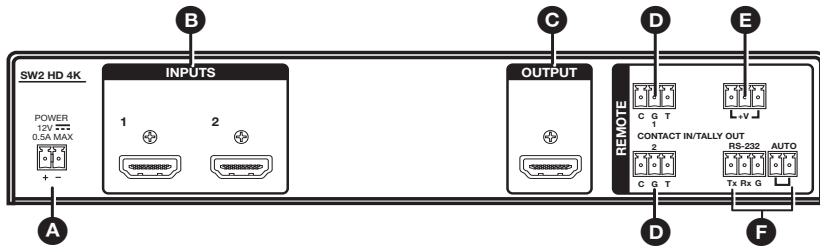

Figure 1. SW2 HD 4K Rear Panel
3. **Connect HDMI input sources** to one or more of the SW HD 4K input connectors (see figures 1 and 2, **B**).
- **RS-232 port** — Connect the unterminated transmit, receive, and ground wires of the RS-232 cable to the provided 3-pole captive screw plug, as shown in the illustration at right. Connect the plug to the rear panel Remote shared connector (see figures 1 and 2, **F**, on the previous page), and the other end of the cable to your computer serial port. Protocol for the RS-232 port is 9600 baud, 8 data bits, 1 stop bit, no parity.
6. **Enable auto-input switching** (optional). Use a jumper wire to connect the pins of the shared 2-pole captive screw plug. Attach the plug to the remote RS-232/Auto switch connector (see figures 1 and 2, **F**) if this was not done in step 5 for the RS-232 connection (see the diagram to the right).
7. **Connect a contact closure device** (optional). Connect a push-button contact closure device to a Contact connector (see figures 1 and 2, **D**, on the previous page) to enable input switching via contact closure.
- **Pin 1** = Contact closure input (C)
- **Pin 2** = Contact and Tally Ground (G)
- **Pin 3** = Tally output (T)
8. **Connect an indicator device to the Tally Out port** (optional). To identify the currently selected input when the front panel buttons are not visible, connect a device such as an LED to the Contact In/Tally Out connector (see figures 1 and 2, **D**, on the previous page) and +V connector (see figures 1 and 2, **E** on the previous page). When the input you are using is selected, the corresponding tally out pin shorts to ground, which activates the connected indicator.